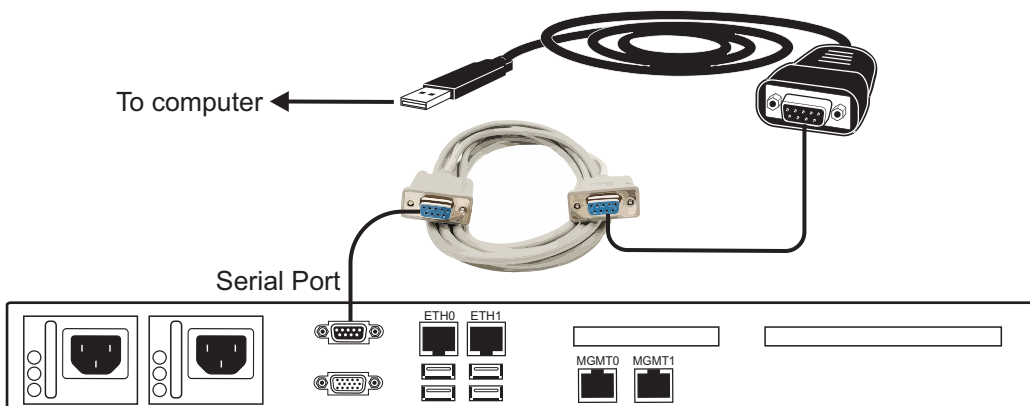

Figure 9.2 USB to DB9 Adapter
1. Connect the USB connector of the cable to a USB port on your computer and the DB9 male connector of the cable to one end of a null modem DB9 female-female cable. Connect the other end of the null modem DB9 female-female cable to the DB9 serial port of the 7800-CTRL. See figure 9.2 on page 58.